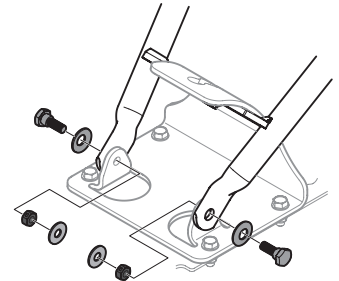

Figure 3
5. Loosely attach the handlebars to the mounting tabs with two shoulder screws (.437 x .268: 5/16-18), inserted through two Belleville washers (.450 x 1.0 x .062), then through the lower ends of the handle and the front holes on the bracket. Add flat washers (.349 x .879 x .063) on the ends of each and secure them by threading a hex lock nut (5/16-18) on each end. See Figure 3.